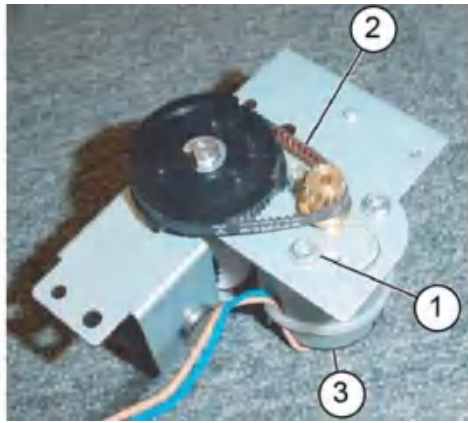

Figure 4 Stacker motor removal
8. Remove the stacker motor, Figure 4:
- Remove three screws (1).
- Remove the belt (2) from the pulley.
- Remove the stacker motor (3).